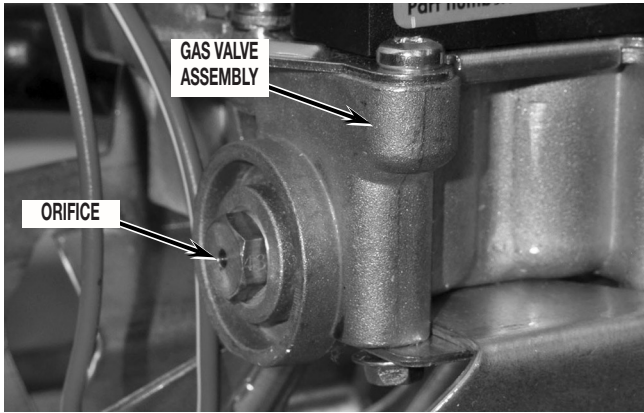

FIGURE 3
- Remove the burner orifice from the gas valve assembly and replace it with the proper orifice furnished in this kit. Orifice number is stamped on one edge of the hex head of orifice. Securely tighten. See *Figure 3*.